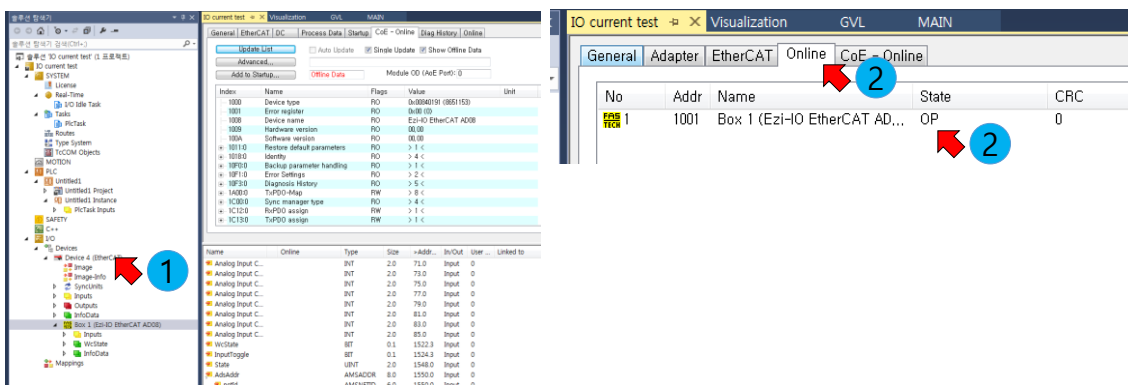

Figure 8-3. Checking EtherCAT Communication State
- ① Check the EtherCAT network is in 'OP' state as shown in **Figure 8-3**.
- ② Check the EtherCAT Communication State LED (RUN) turns Green.